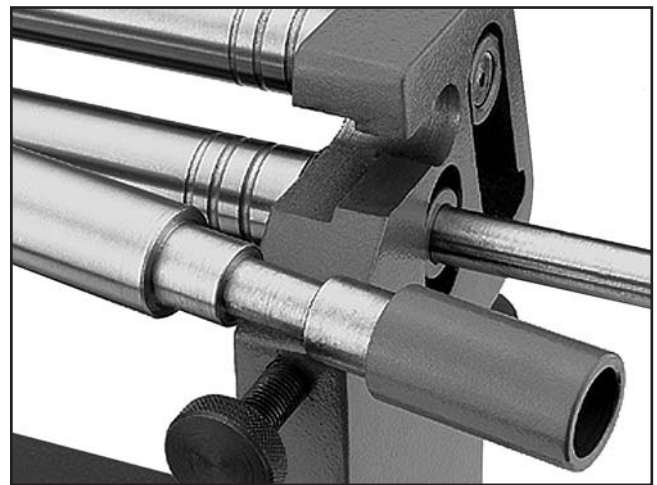

Figure 31. Releasing top roller.
3. With the help of an assistant, slide and lift the top roller out from the base. Remove the workpiece from the top roller, then place the top roller back onto the base (**Figure 31**).